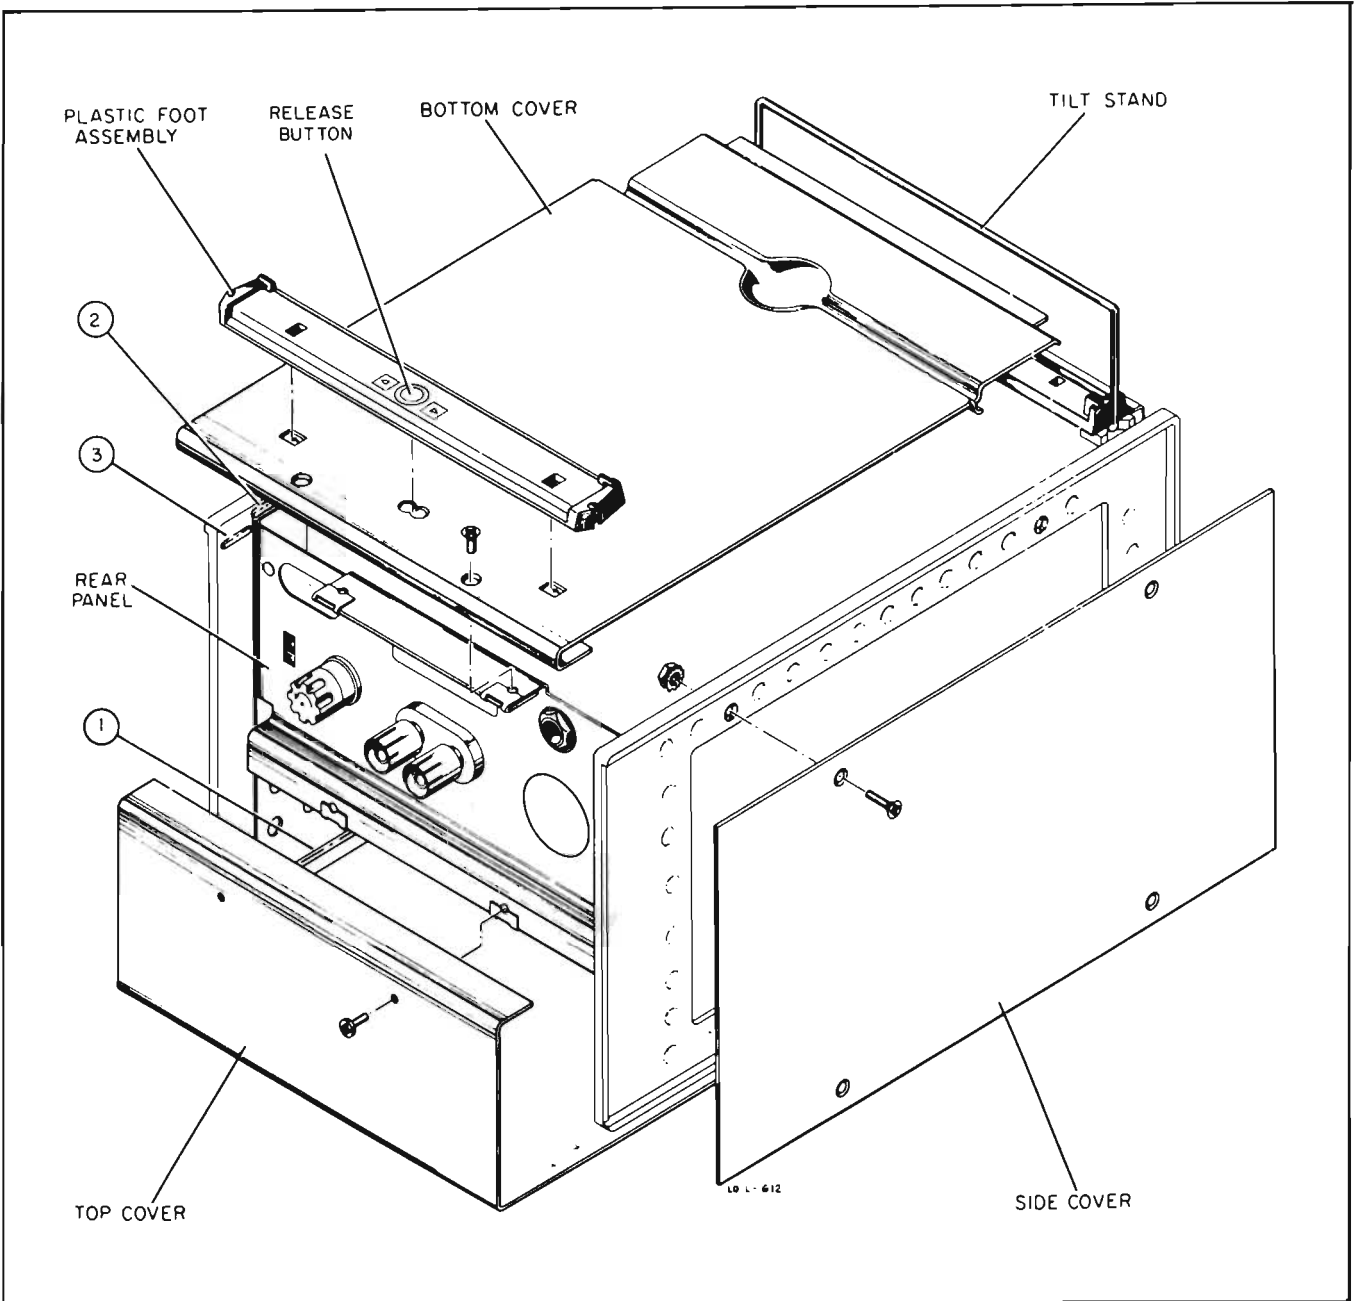

Figure 5-1. Cover Removal
5-5. Refer to figure 5-1 when removing instrument covers. Removal of the top cover exposes the circuit areas shown in figure 5-2. Routine checks and adjustments can be performed without the removal of other covers. However, operations such as soldering on
- a. Rest the cover flat on the cast guides projecting inward near the top of each side frame (see $\text{\textcircled{1}}$, figure 5-1).
- a. Set the tilt stand as shown in figure 5-1.
- b. Rest the bottom cover flat on the cast guides projecting inward near the bottom of each side frame (see ②, figure 5-1).
- c. Slide the cover forward on the guides so that the formed portion at the rear of the cover slides over the two short projections at the rear corner of each side frame (see ③, figure 5-1).